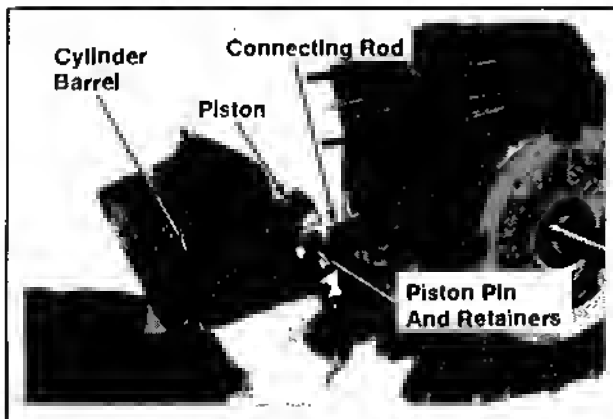

Figure 11-31. Installing Pistons/Cylinder Barrels to Connecting Rod.
3. Install one (1) new piston pin retainer in one side of each piston pin bore.
4. Install the pistons (inside cylinder barrels), piston pins, and new piston pin retainers to connecting rods. Refer to Figure 11-31.